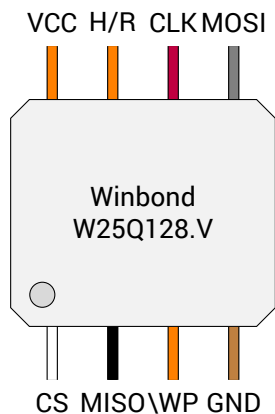

Figure 4: connecting the BusPirate v3.6a with the SPI NOR Flash
Figure 4 shows how to connect the BusPirate v3.6a with the SPI NOR flash chip. Connect the *Chip Select* (CS) pins using the white cable, the *Master In Slave Out* (MISO) pin with the *Data Out* (DO) pin using the black